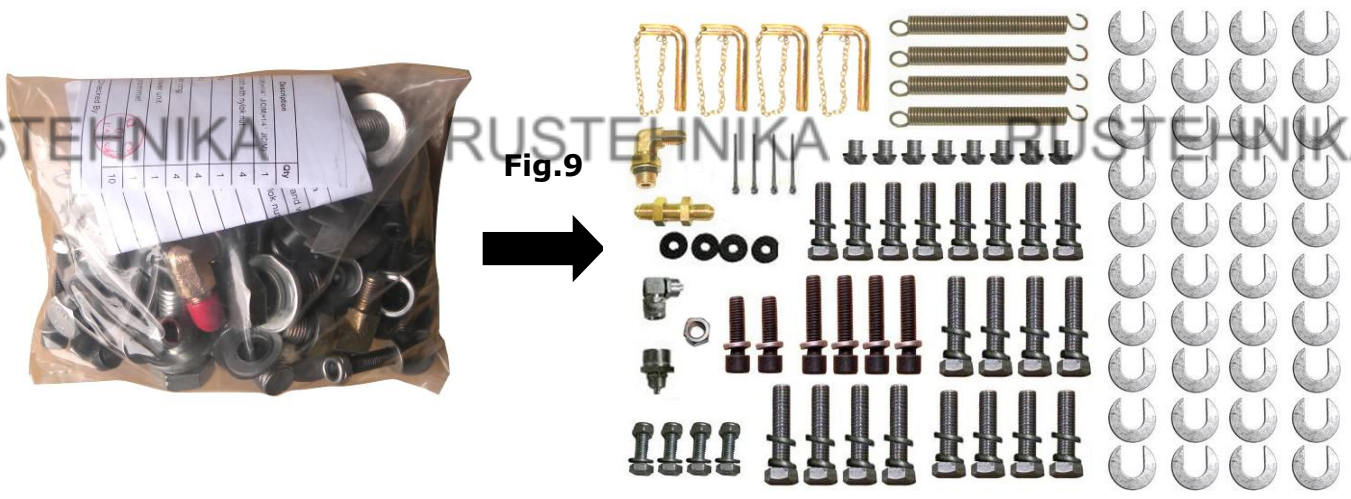

Fig.9
7. Check the parts of the parts bag according to the parts bag list (See Fig. 9).